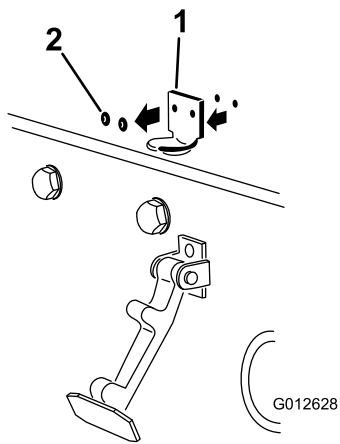

Figure 32
- Remove the rivets (2) securing the hood-latch bracket to the hood (Figure 32). Remove the hood-latch bracket from the hood.